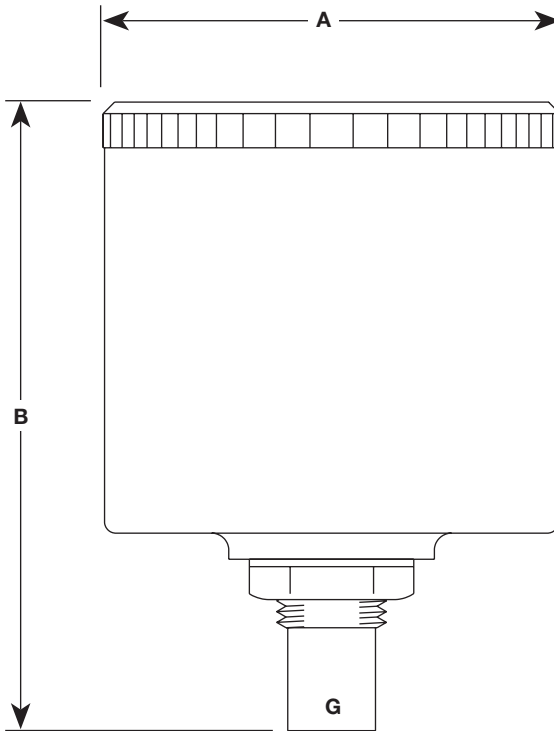

Fig. 2 Dri-line Mk3 dimensional drawing
- Adequate space should be provided around the unit to allow easy access for routine maintenance requirements (see Figure 2 for the dimensions of the unit to judge the required withdrawal distance required).